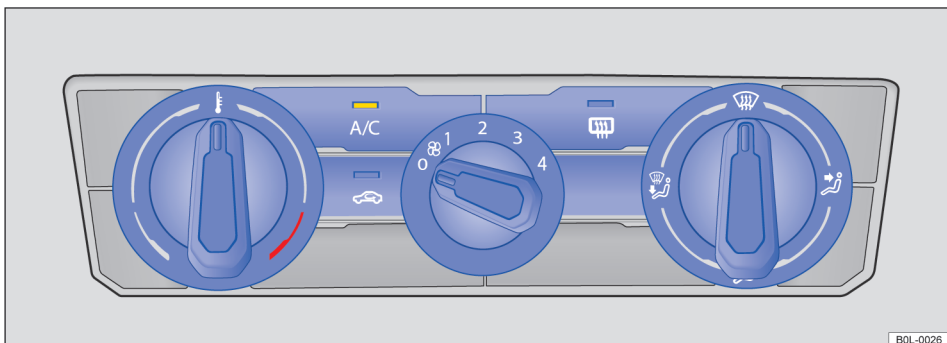

Fig. 77 In the upper part of the centre console: climatic operating mechanism
- Turn the left thermostat → Fig. 77.
- Turn the central blower adjustment knob → Fig. 77.
- Turn the right air distribution regulator into position  → Fig. 77.
- Turn the air distribution regulator → Fig. 77 into position .
- Turn the blower adjustment knob → Fig. 77 to the 3rd gear. If the engine has reached the best operating temperature, the blower speed can be reduced moderately.
- Turn the temperature control knob → Fig. 77 right to stop.
- Adjust the temperature control knob → Fig. 77 to set the temperature as desired.
- Turn the blower speed adjustment knob → Fig. 77 to the 2nd or 3rd gear.
- Turn the air distribution knob → Fig. 77 to  gear.